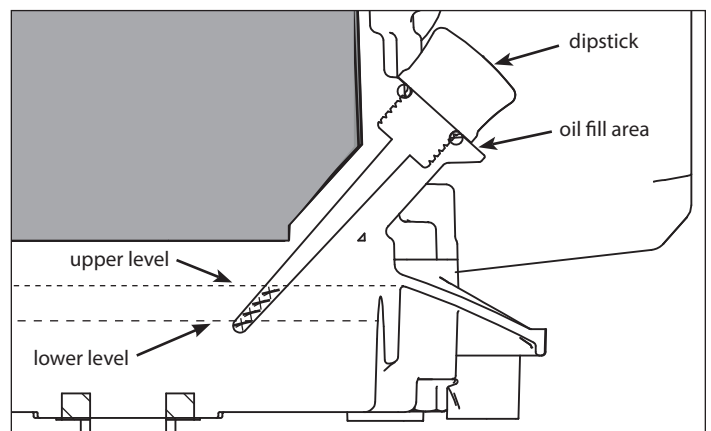

FIGURE 6: Filling and changing oil
2. Remove dipstick and carefully tip the engine toward the dipstick side to empty oil from oil fill area. Empty oil into a suitable oil container and dispose of oil properly. **SEE FIGURE 6**
3. Tip engine back onto a level surface and fill with appropriate oil to the top of the marking on the dipstick. **SEE FIGURE 6**
4. Reinsert dipstick and tighten. **SEE FIGURE 6**